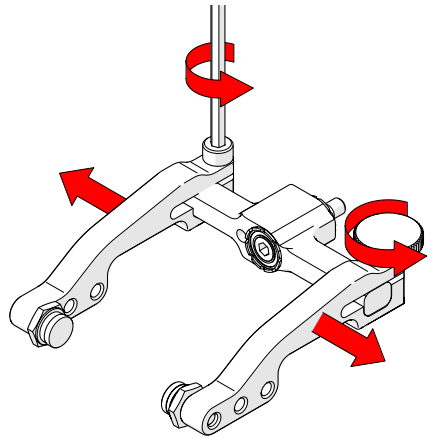

Fig. 61 - Remove arms
2. Loosen the probe holder arm adjustment knob and arm clamp screw. Slide the arms from the yoke (Fig. 61).